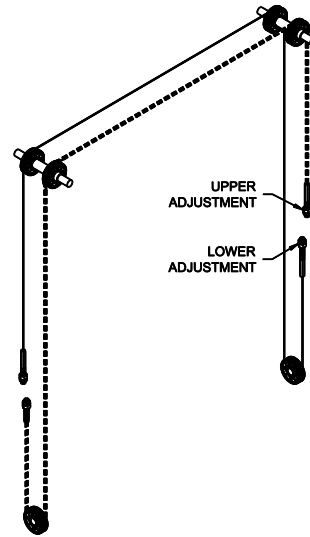
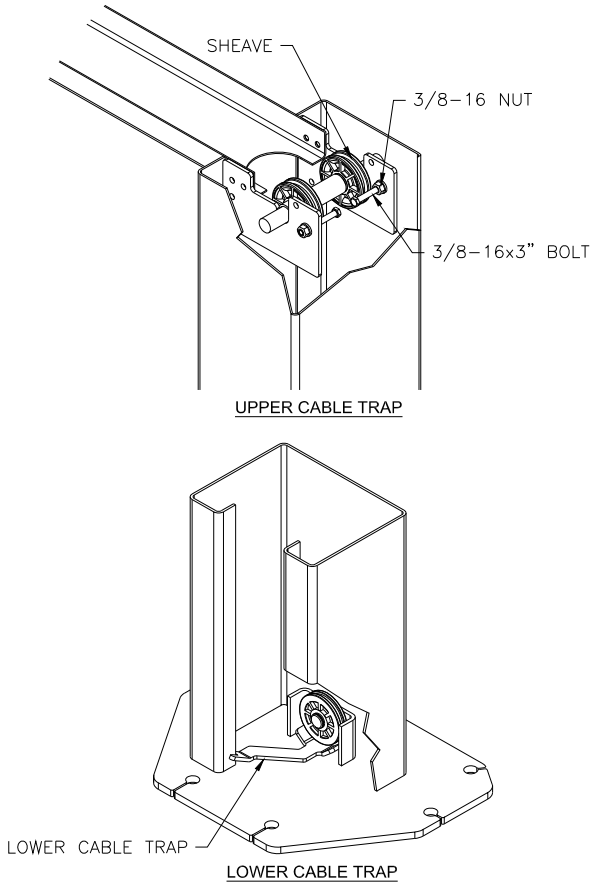

Fig 7a – Cable Routing
Fig 8 – Cable Trap
- 18) Manually raise the carriages approximately 32 inches to gain access to the cable-tie-off tabs located on the carriage ladder. Insure that the top of the hydraulic cylinder is out of the way but still retained in the opening of the top plate of the carriage as shown in **Fig 7a**.
- cable. **Fig 8**. Route synchronizing cables using **Fig 7a** and attach ends to cable-tie-off tabs using **Fig's 7b & 7c**.
- 20) Once cables are routed install the lower cable trap devices sliding along the inside edge of the column and under the sheave. **Fig 8.** Note (2) lower cable trap devices are packaged in the hardware box included with the lift.